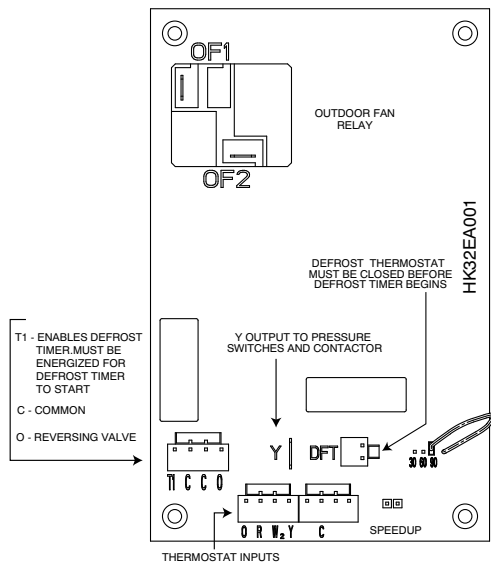

Fig. 10 - Defrost Control
2. Disconnect outdoor fan motor lead from OF2 on control board, see Fig. 10. Tape lead to prevent grounding.